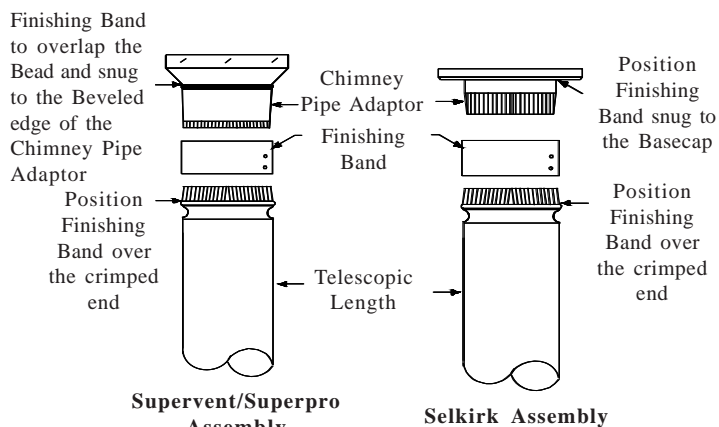

Figure 1A
Step 1. Position the Telescopic Length to the appropriate location over the Chimney Pipe Adaptor. Ensure that it's final position will be covered by the Finishing Band which is only 3" wide. The Finishing Band must overlap the crimped end of the DSP and the bead to the beveled edge of the Chimney Pipe Adaptor or to the Basecap (see Figure 1A).